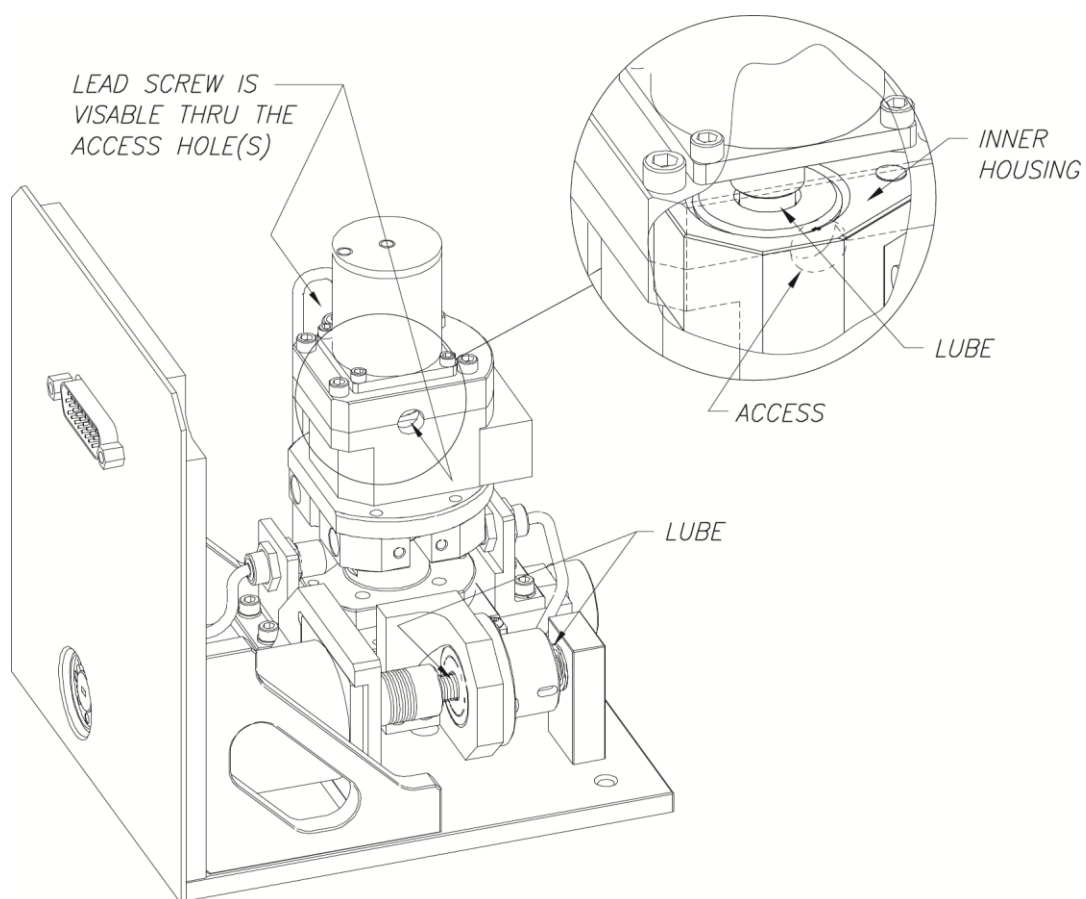

Figure 8. Lubrication Points
2. Through the access hole in the carriage (see Figure 8), apply a small amount of lubricant to the point where the probe motor lead screw enters the probe drive block. The amount of lubricant to be applied should be a single drop of lubricant, approximately one millimeter (0.04 inches) in diameter. More oil than this could migrate into the waveguide portion of the tuner and degrade electrical performance.